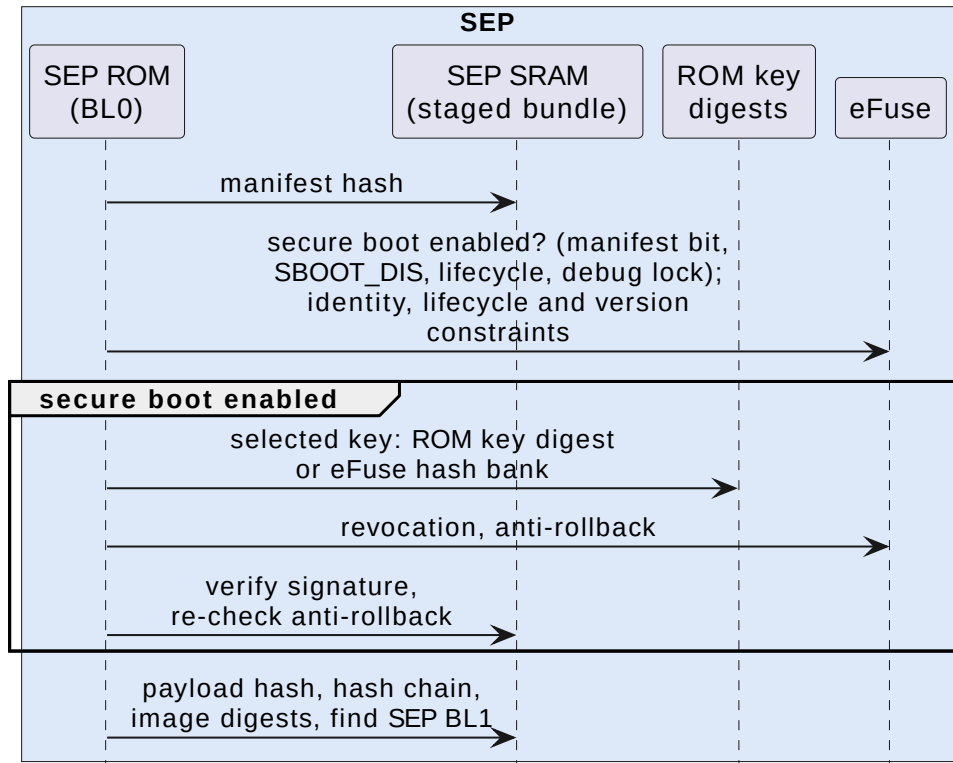

Figure 3. Bundle checks in SEP BL0
2. **The primary authenticates.** SEP BL0 on chiplet 0 copies its bundle from the SPI flash into SEP SRAM, authenticates it (Figure 3), and enters SEP BL1. SEP BL1 restarts chiplet 0’s SMC into SMC BL1 (Section 2.2).
4. **The secondary authenticates.** SEP BL0 on chiplet 1 copies the bundle from its SMC’s SRAM into SEP SRAM, checks it against chiplet 1’s trust anchors (Figure 3), and enters SEP BL1. SEP BL1 restarts chiplet 1’s SMC into its own SMC BL1.
On both paths the manifest lands at the base of SEP SRAM, `0x1000_0000`, and the payload immediately after it, 8-byte aligned. Validation always works on this copy in SEP SRAM, never on SMC SRAM, which stays writable from the SMC side. Figure 3 shows the order in which SEP BL0 checks it; Section 2.1.2 describes the checks.
4. **Authenticate.** Chiplet 1's SEP takes over as described in Section 2.2.3. It verifies the bundle against chiplet 1's ROM digests and eFuses only, as Figure 3 shows.